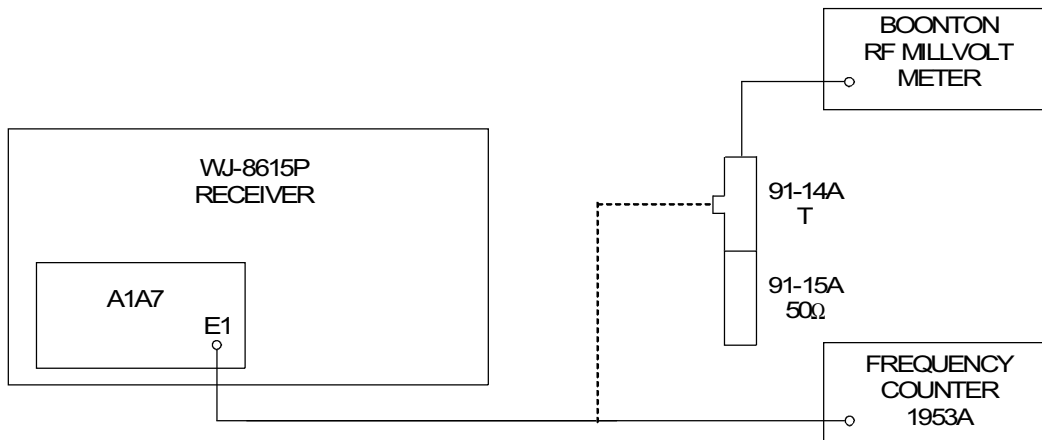

Figure 4-6. 1st LO Synthesizer Performance Test, Equipment Connections
1. Connect the equipment as illustrated in **Figure 4-6**.